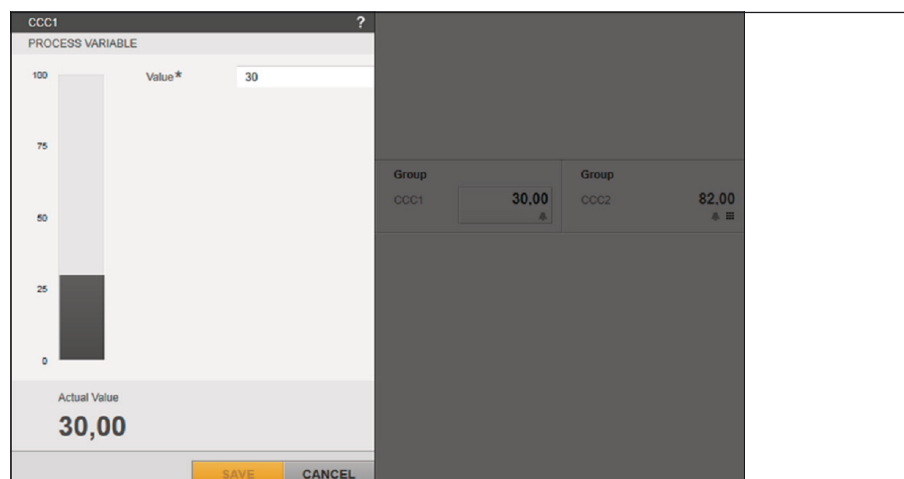
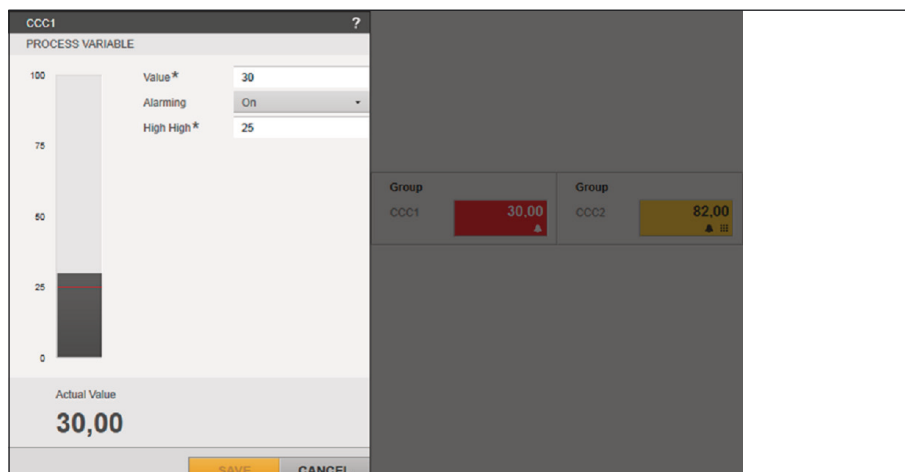

Fig. 6-27: Details and input screen of a process variable with editable value
Fig. 6-28: Details and input screen of a process variable with editable value and activated alarm function during a running batch
- Process variable with editable value (see Fig. 6-27, 118 and Fig. 6-28, 119)